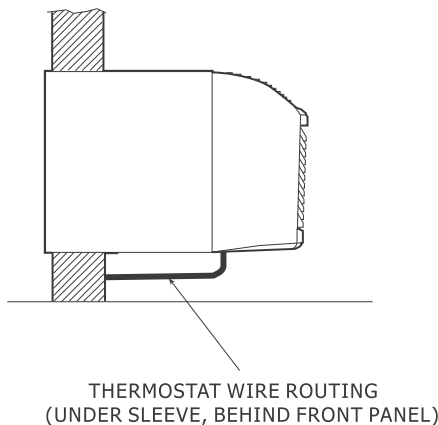

Fig. 18 – Proper Wire Routing Beneath Unit
3. Turn louver insert and rotate 180°. See Fig. 18.